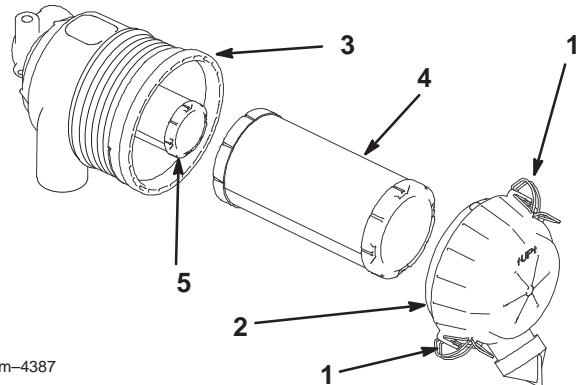

Figure 25
3. Release the latches on the air cleaner and pull the air cleaner cover off of the air cleaner body (Fig. 25).
5. Gently slide the primary filter out of the air cleaner body (Fig. 25). Avoid knocking the filter into the side of the body. Do not remove the safety filter, unless you intend to replace it as well.
2. If the safety filter is being replaced, carefully slide it into the filter body (Fig. 25).
3. Carefully slide the primary filter over the safety filter (Fig. 25). Ensure that it is fully seated by pushing on the outer rim of the filter while installing it.
4. Install the air cleaner cover with the side indicated as UP facing up and secure the latches (Fig. 25).